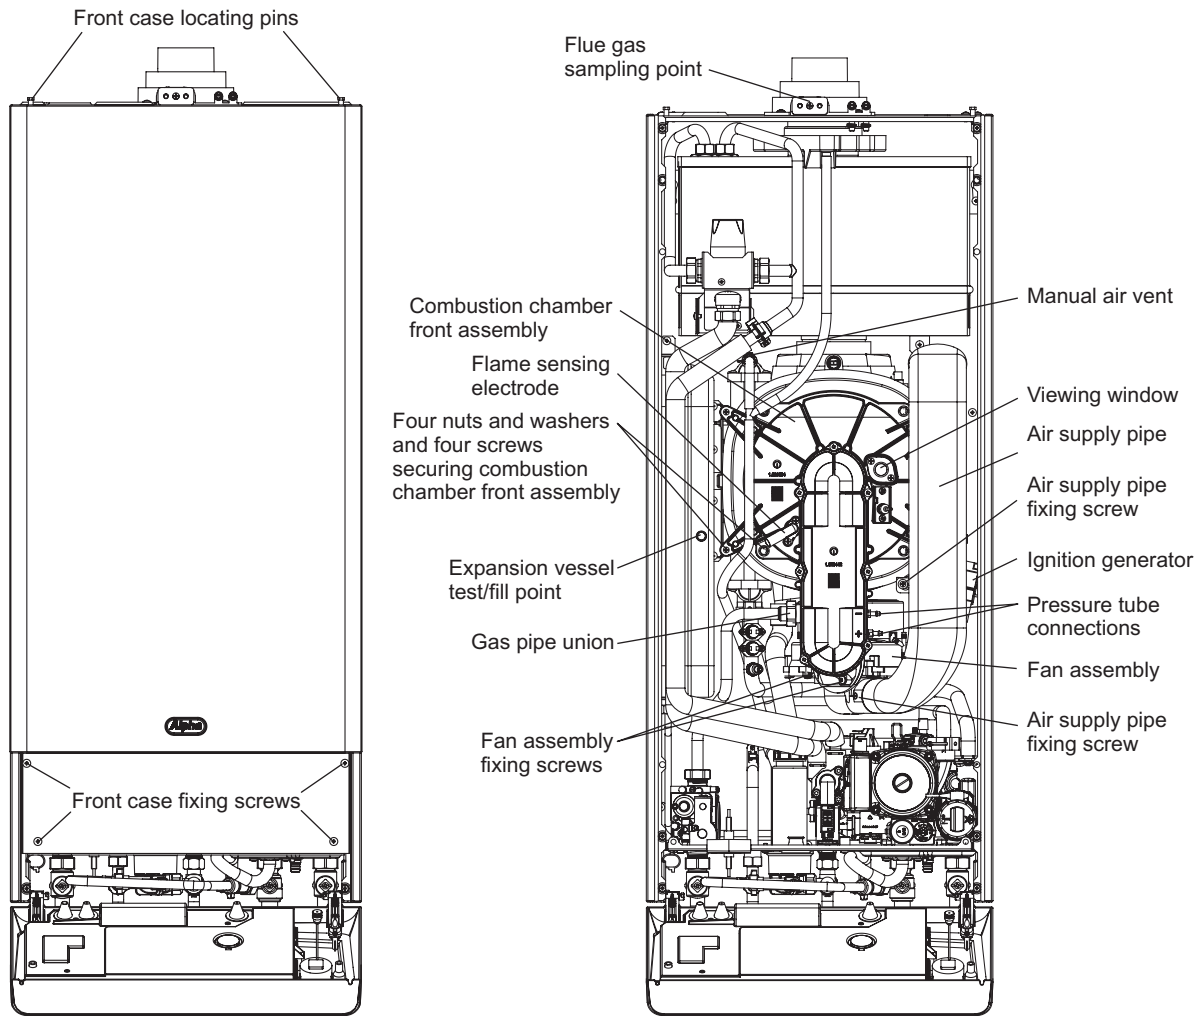

Fig. 28
Connect the flue gas analyser to the flue gas sampling point as shown in Fig. 28.
Notes: 1. Prior to servicing, it is recommended that a flue gas analyser is used to measure the performance of the boiler (refer to Fig. 28 for the position of the flue sampling point). If the CO/CO₂ ratio measured is greater than 0.003 **or** when other checks and comments from the customer have indicated that there may be problems, cleaning of the heat exchanger will be necessary. All Sections 6.1, 6.2, 6.3 and 6.4 **must** be carried out. Repeat the flue gas analyser test after reassembling the boiler and check that the CO/CO₂ ratio is less than 0.003.
3. Refer to Fig. 28 for location of flue sampling point.
6.2 PREPARE FOR SERVICING - Fig. 28
7.1 GENERAL ACCESS - Fig. 28
7.5 BURNER INJECTOR - Fig. 28
7.6 FAN - Fig. 28
2. Remove the two screws securing the air supply pipe (see Fig. 28) and remove the pipe.
3. Unplug the fan plug and remove the two screws securing the fan to the combustion chamber front (see Fig. 28).
2. Remove the screw securing the air supply pipe (see Fig. 28) and remove the pipe.